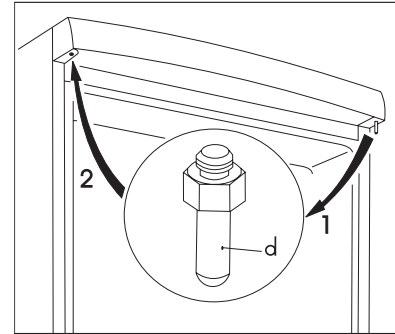

fig. 1.
- Unscrew the top door hinge pin (d) of the refrigerator then screw it back on the other side. (fig.1)